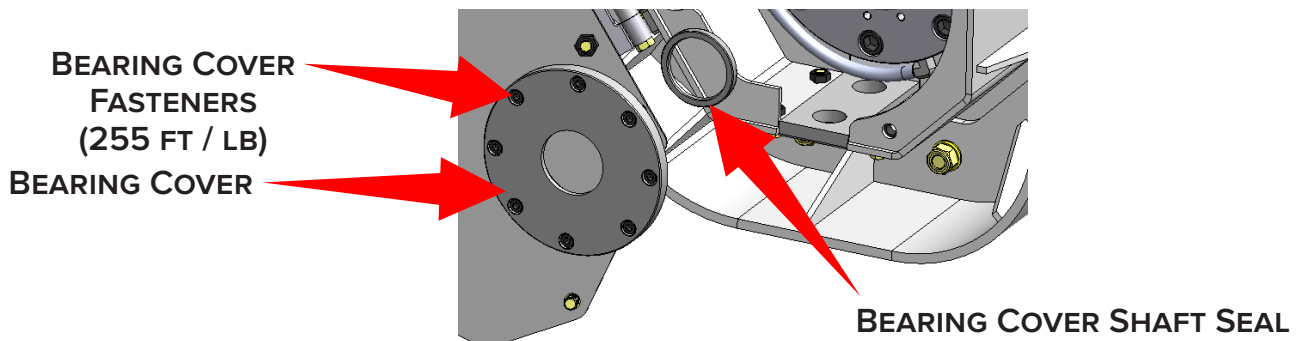

Figure 26
- Install the bearing housing cover, and torque the fasteners to 25 ft / lb (34 N•m) with a 6 mm Allen key and medium strength thread locker. See Figure 26.